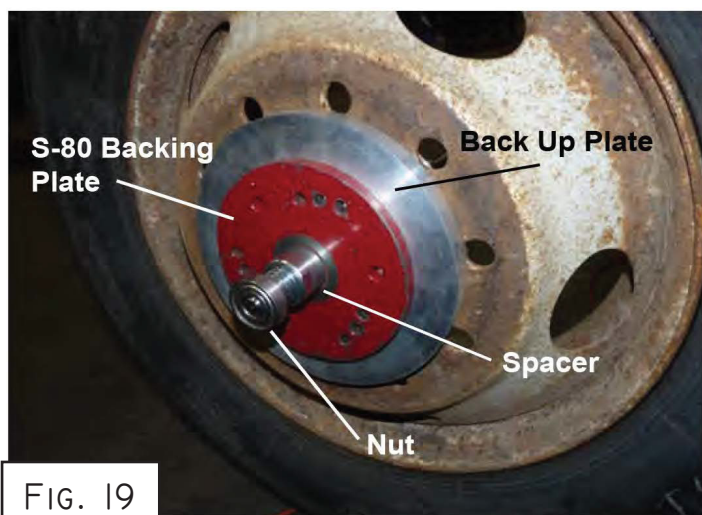

FIG. 19
5. In Figures 19 and 20, a Hub Centric adapter has been selected and mounted to a truck tire using the Series 80 Backing Plate.
8. NOTE: In Figures 19 and 20 a rustier rim was used to show that even in certain conditions Truing can still be achieved. Prior to truing this rim emery cloth and sand paper were used to clean the bore and contact surfaces of the rim.